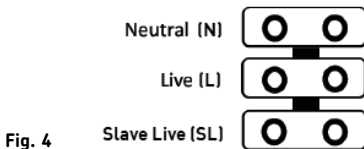

Fig. 4
- Connect the luminaire to the mains supply ensuring the correct polarity is observed (see Fig. 4)